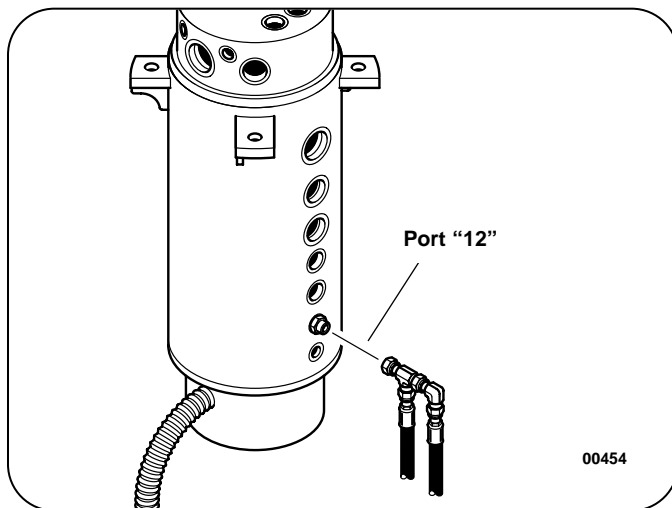

Figure 5: Brake Release Line At Rotary Manifold
6. Locate the parking brake release lines where they enter the rotating manifold at lower port "12". See Figure 5.